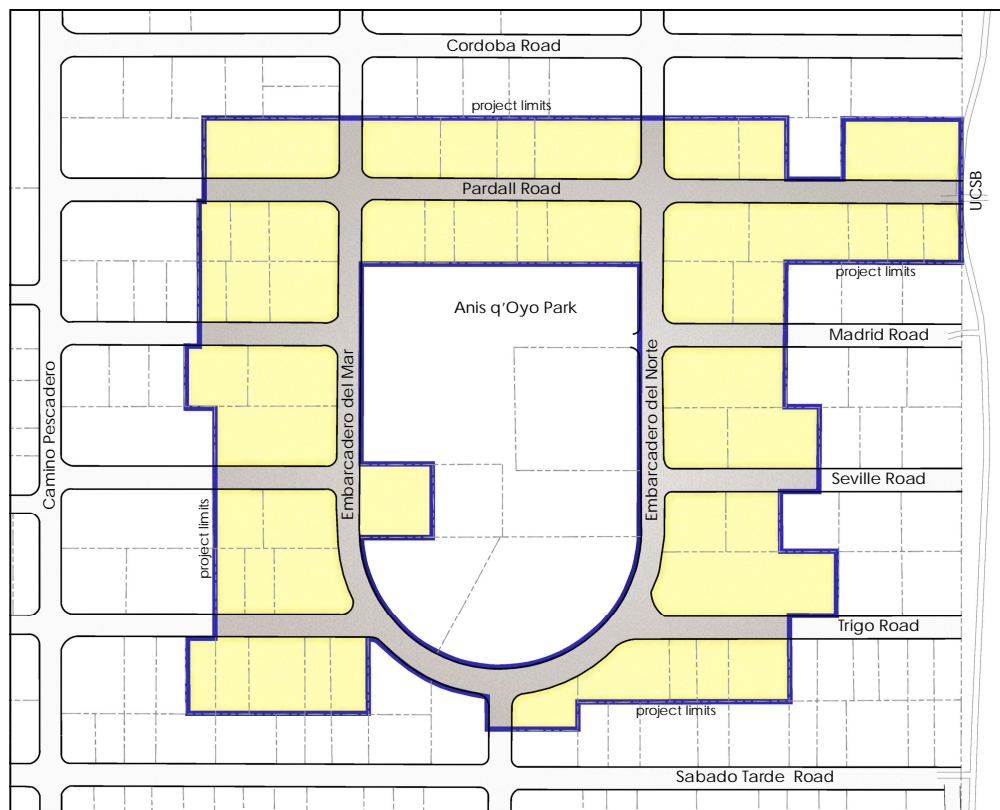

Figure 2.1
**Project Area** Properties within the Isla Vista ROW lease program boundaries are shown in Figure 2.1 Dining areas are allowed to extend a maximum of 8 feet into the public right-of-way, subject to the spatial standards in Section 3.1.